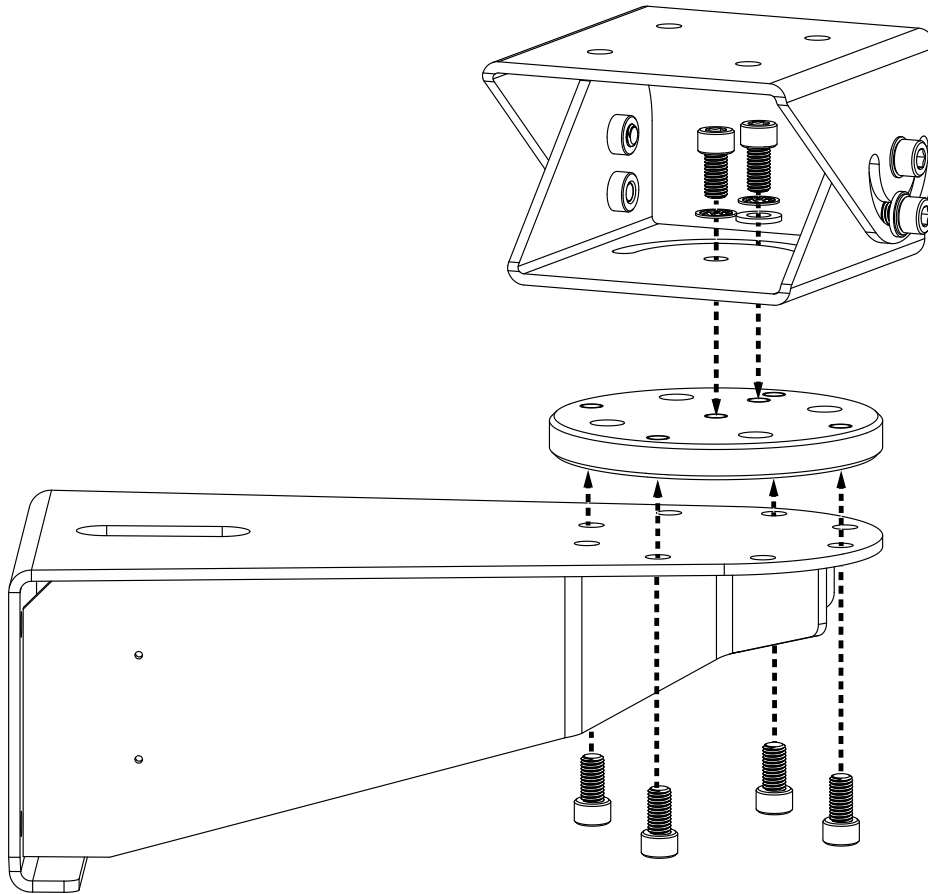

Figure 5.
1. Attach the baseplate to the mounting surface with M8 flat head screws of suitable length. Alternately, attach the baseplate to the Wall Mount Adapter (WXM200) (Figure 5) or Pedestal Plate (PXM200) (Figure 6) using the supplied M10x1.5x16 mm socket cap head bolts. Tighten the bolts to 34 to 37 Nm.